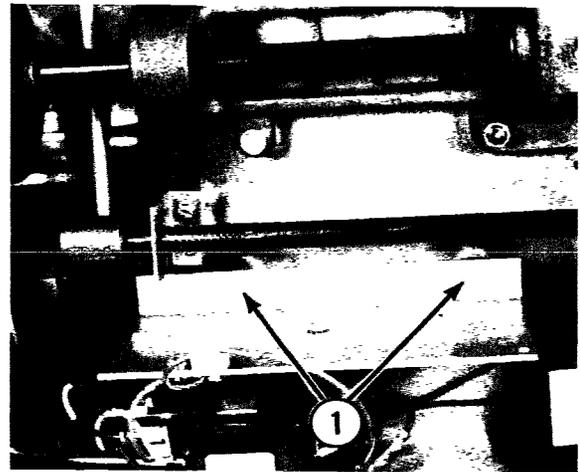

Fig. 2-8
- (6) Remove two screws (1, Fig. 2-8) and remove the electrical plate.